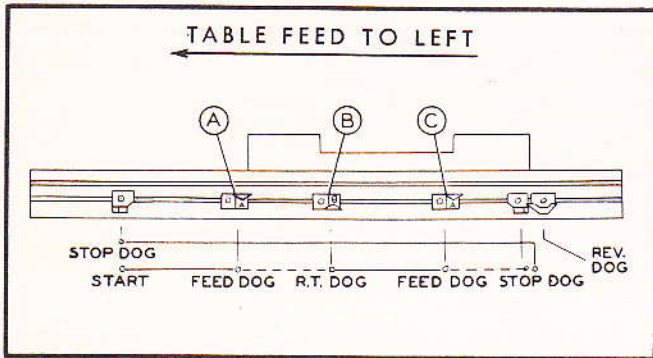

Fig. 15. Intermittent Cycle — Rapid Traverse Return — Right to Left
Figure 15 shows the position of the dogs for table travel which starts to the left. The workpieces are loaded and unloaded while the table is at the right end of travel. With the selector knob rotated to read RAPID REV, move the mono-lever to the left and then outward. The table will travel at the rapid traverse rate until the feed dog (A) contacts and depresses the trip post. This occurs just before the cutter contacts the workpiece. The mono-lever will then shift inward to the feed position and the table will feed to the left until the rapid traverse dog (B) contacts and raises the trip post. The mono-lever will then shift outward and the table will travel at the rapid traverse rate until the feed dog (C) contacts and depresses the trip post. This again occurs just before the cutter contacts the second workpiece. The mono-lever will then shift inward and the table will feed to the left until the reverse dog depresses the right reverse plunger to change the direction of table travel. The table will then return at the rapid traverse rate until the stop dog at the left end of the table moves the trip position and stops the table. Two new workpieces are then put on the table and the cycle is repeated.